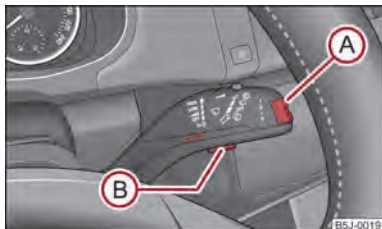

Fig. 6 Multi-functional indicator: Control elements
Switching over the memory takes place with the button (B) ⇒ fig. 6 on the windshield wiper lever.
The rocker switch (A) and the button (B) are located on the windshield wiper lever → fig. 6.
If the outside temperature drops below +4 °C, a snow flake symbol (warning signal for ice on the road) appears in front of the temperature indicator and flashes for 10 seconds, then remains displayed together with the outside temperature. At the same time an audible signal sounds. After pressing the rocker switch (A) on the windshield wiper lever → fig. 6, the function which was shown last is indicated.
The driving time which has elapsed since the memory was last erased, appears in the display → page 14. If you wish to calculate the driving time from a particular time of day you must first erase the memory at this moment in time by pressing the button (B) → fig. 6.
If you wish to determine the average fuel consumption over a certain period of time, you must erase the memory at the start of the new measurement using the button **(B)** on the windshield wiper lever ⇒ fig. 6. A zero appears in the display for the first approx. 300 m you drive after erasing the memory.
The distance driven since the memory was last erased appears in the display ⇒ page 14. If you wish to calculate the distance driven as of a particular time, you must erase the memory at this moment in time by pressing the button **(B)** on the windshield wiper lever ⇒ fig. 6.
The average speed since the memory was last erased is shown in the display in km/hour ⇒ page 14. If you wish to determine the average speed over a certain period of time, you must erase the memory at the start of the new measurement by pressing the button **(B)** on the windshield wiper lever ⇒ fig. 6.
- With switch **(A)** ⇒ fig. 6, choose the menu point **Warning against excessive speeds**.